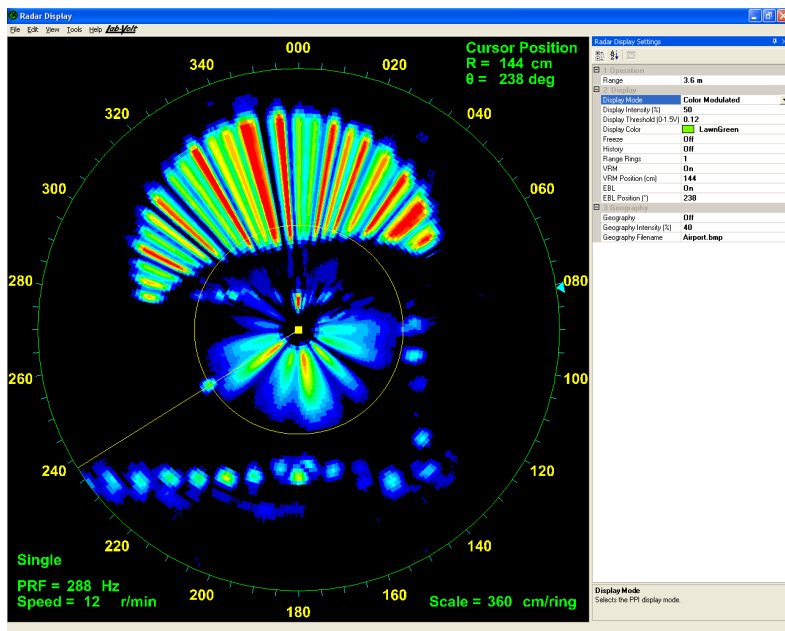

Figure 4. Computer-based control of the radar display functions.
- Control the radar display functions such as the PPI display mode selection, Variable Range Marker (VRM), Electronic Bearing Line (EBL), etc. (see Figure 4)